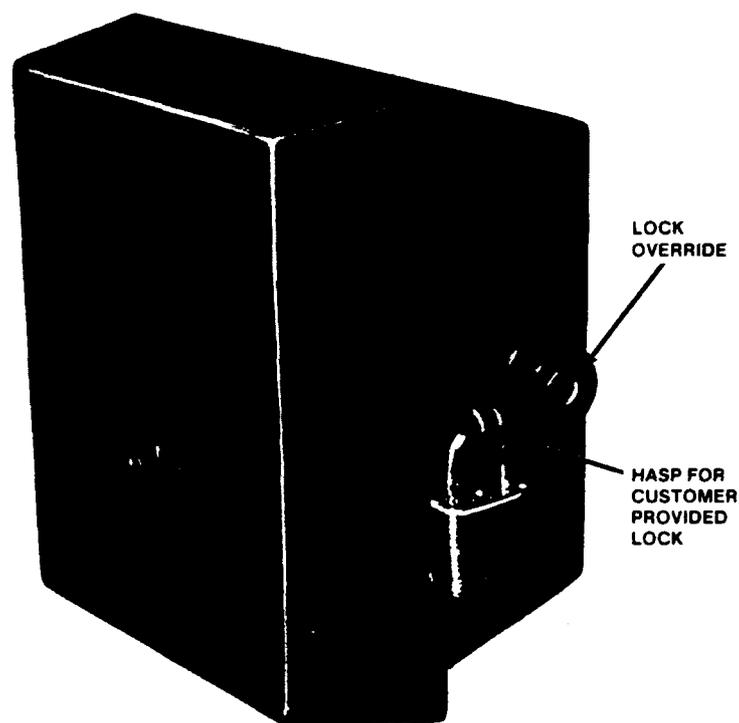

Figure 3. 400 Series NIU Protectors Showing Customer-Provided Lock and Telco Override Feature
3.05 The 400 series NIU (Figure 3) is equipped with lockout features, providing a hasp for a customer-provided lock (to inhibit unauthorized entry), and has provisions for Telco personnel to override the lock (to gain entry).
- (6) Secure the cover by closing the door and using the 216 tool to tighten the retaining screw.
- (7) Contact the customer and explain the functions of the outside 400 series NIU. If the customer is not at home, fill out the orange card enclosed in the 400 NIU packing bag and leave it on the customer's doorknob.
- (8) A customer-provided lock may be installed on the hasp of the 400 series NIU housing (to inhibit unauthorized entry).
- (9) To bypass the customer-provided lock, unscrew the security screw on the hasp bracket located on the side of the 400 series NIU housing (Figure 3), using security tool KS-19192 L1. Then, open the outside door of the NIU, using the 216 tool.